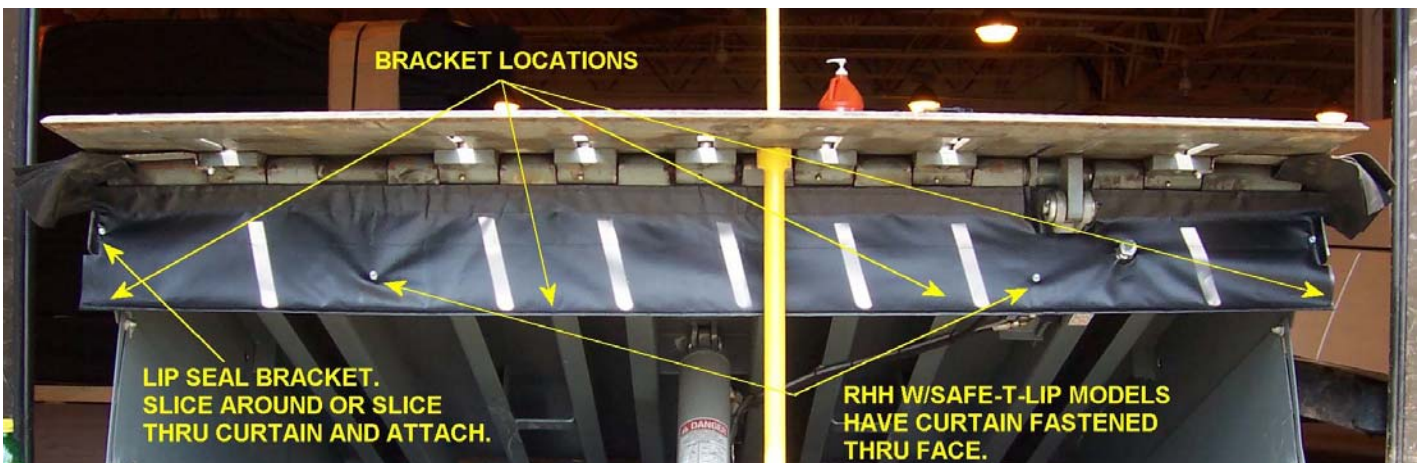
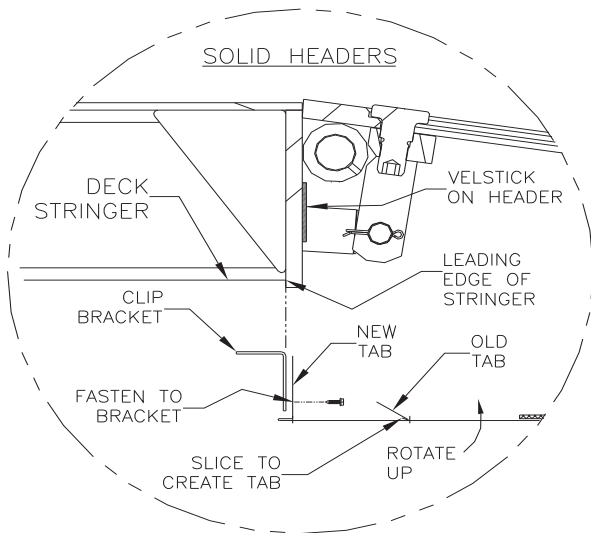
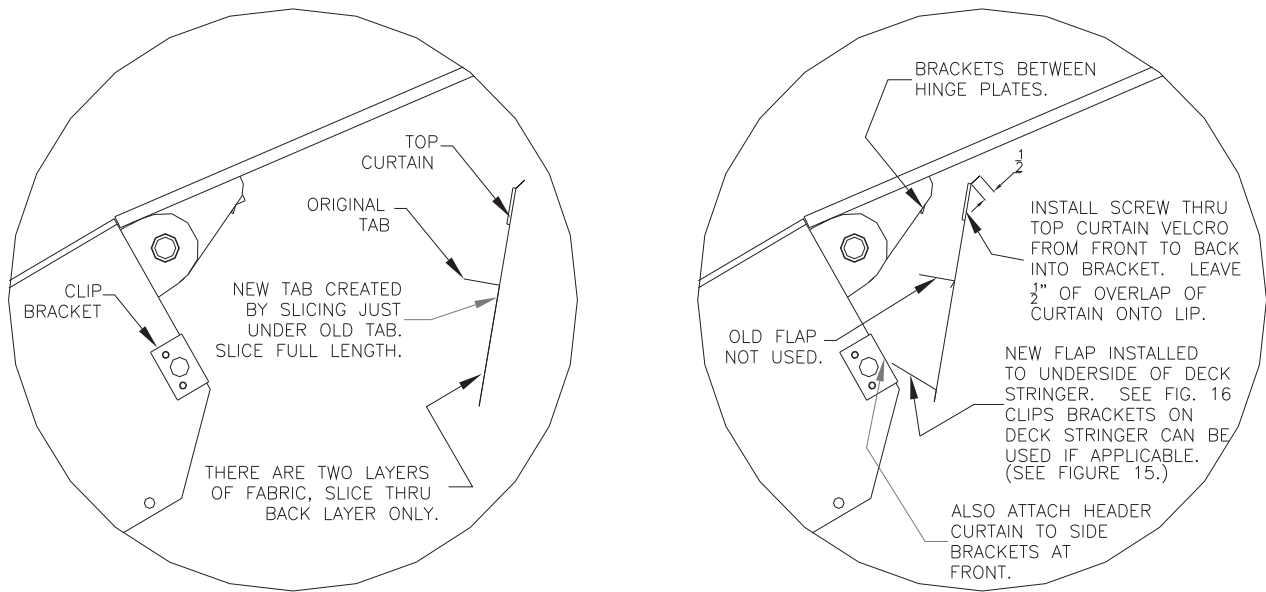

FIGURE 11
FIGURE 12
FIGURE 21
On models that have gussets on the header and lip, the top curtain may need to be notched or small slices added at the gussets to provide clearance for the gussets on the lip to clear when the lip rotates. (See Figure 11.)
6. The lower portion of the top curtain can be attached in two ways, directly to the underside of the deck stringers as shown in Figure 17 or by adding clip brackets to underside of deck stringer as shown in Figures 12-15. Determine the best method for your application and or leveler model, but using the bracket method creates the best seal because the brackets at the outside help the curtain from staying folded when in contact with the lower curtain. Create the new tab as shown in the Figures 12, 13 & 21. Make the tab as long as possible.
as shown in Figure 11 either attached to deck stringer as shown in Figures 12 & 13 or attached to toeguard as shown in Figure 21. In the middle area, there should be enough tab to attach the curtain directly to the deck stringer. Brackets can be added to middle section as long as the tension is not as such to apply too much pressure against the pivot arms. (Note: Make sure that where the brackets are located they do not interfere with leveler operation, are near lip keeper locations and/or get damaged when leveler cycles.)
2. The header plate comes pre-drilled with (4) holes used for installing the header curtain. (2) are located at each lower outside corner, (2) others are located along the same horizontal line towards the inside. (See Figure 11.)
5. Attach the header curtain to the bracket by installing a fastener thru the lower flap on the lower, backside of the header curtain. (See Figure 16 and in this case, the flap has to be cut into the header curtain. Reference Figure 21 for creating lower flap.)
Follow the same basic procedure as used on the formed header instructions above with the exceptions below if required. (See Figure 12 for standard installations)
8. Create new flap on backside of the top curtain. This is done by slicing the large pocket on the back of the header curtain. (See Figure 21 for details.)
11. The outside edges of the header curtain are designed go over the toe guards and to rub against the pit edges. Trim around toeguards if necessary. Clip bracket may be required at outside edges on the toeguard to keep curtain in place. (See Figure 21.)
12. Finally, trim the ends off of the header curtain. The curtain length comes designed for a 7' wide leveler. For smaller decks, trim the top curtain to pit width plus 1". Adjust as needed. (See Figure 11.)